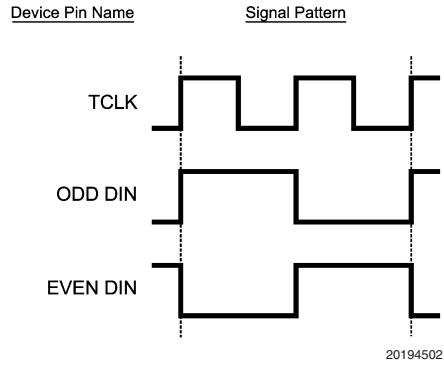

FIGURE 1. Serializer Input Checkerboard Pattern
**Note 10:** Figures 1, 2, 9, 10, 14 show a falling edge data strobe (TCLK IN/RCLK OUT).